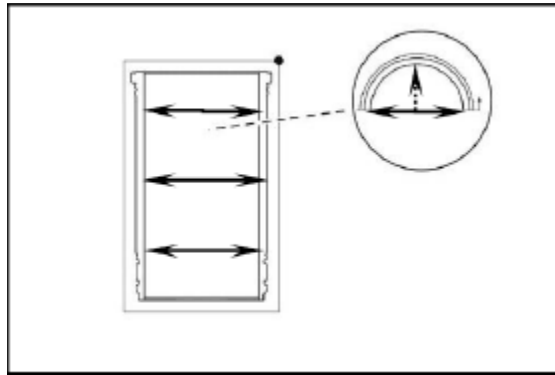

Figure 85.
- With the liner in place check the upper, middle, and lower working areas for any burnishing (Figure 85).